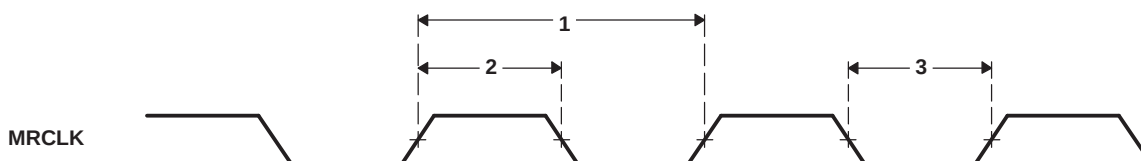

**Figure 6-39. MRCLK Timing (EMAC - Receive)**
**Table 6-75. Timing Requirements for MRCLK (see Figure 6-39)**
**Table 6-76. Timing Requirements for MTCLK (see Figure 6-39)**